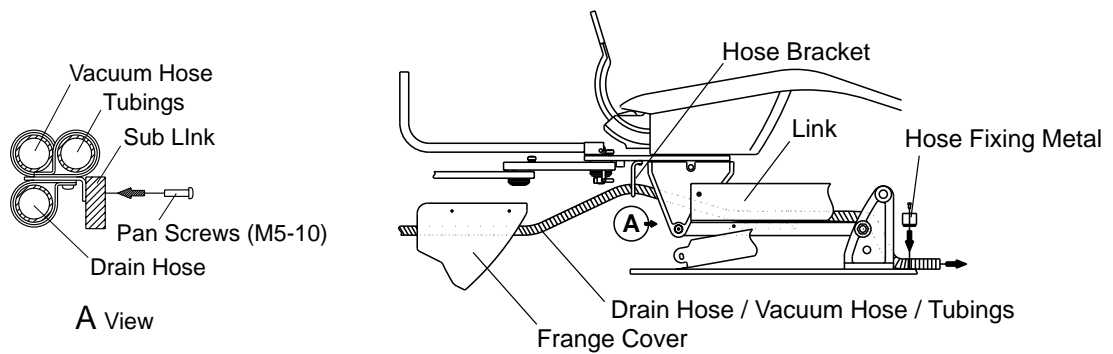

Fig.3-5-10 Fixing Drain Hose, Vacuum Hose, Tubings
- (10) Run the drain hose, vacuum hose and tubings through frange cover and hose bracket and link. **(Fig.3-5-10)**
Fix the hose bracket to sub link by two pan screws. **(Fig.3-5-10 A view)**